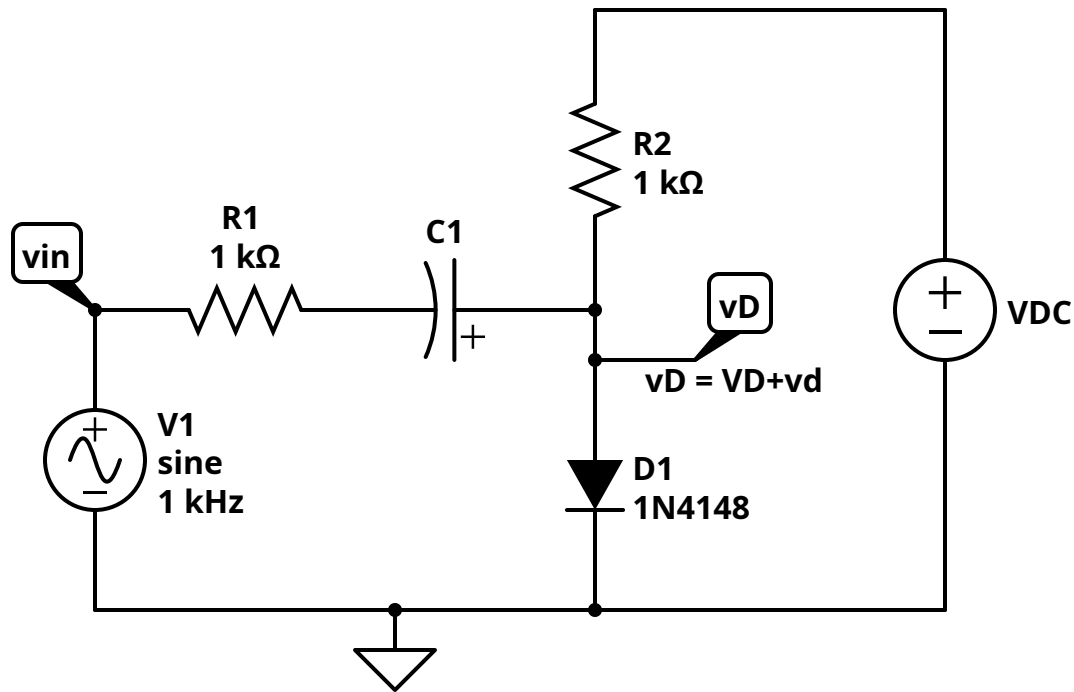
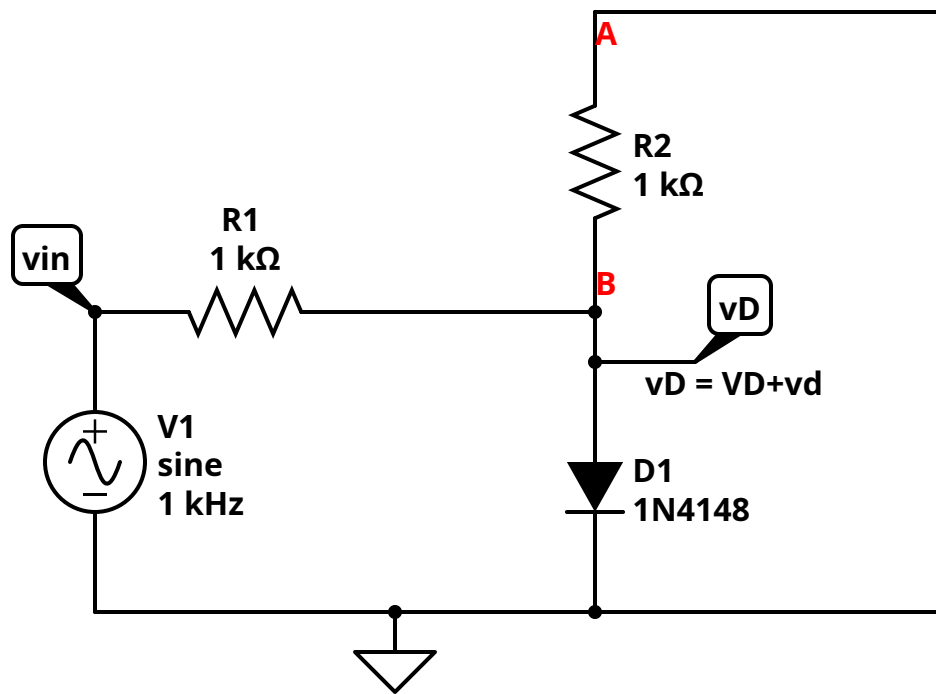
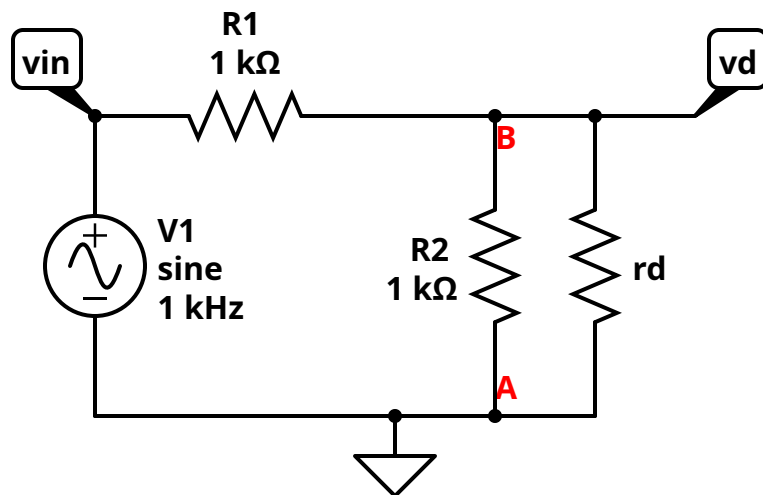

Figure 5. Current-controlled resistance circuit to construct
Figure 9. Small-signal circuit step 2
Figure 10. Small-signal circuit step 3
Briefly switch back to look at Figure 5 and notice the two 1 k Ω resistors attached to the capacitor's nodes, see $\approx 500 \Omega$ in your mind, as if they are in parallel.
Remember that this capacitor is in *series* with R1 from Figure 5. You can see that adding 5 Ω to 1 k Ω still gives a series impedance of about 1 k Ω . What other circuit element do you know where you can put it in series with something else and have no effect? \rightarrow a *short-circuit* !
These two approximations are useful in understanding what is happening in the Figure 5 circuit's operation.
□ Measure the time it takes for a diode to become reverse-biased after carrying forward current. See Fig.5 and Fig.9 of Vishay Application Note: Rectifiers Physical Explanation for notated plots of the various reverse recovery definitions. This is *not exactly* the same as t_{rr} the reverse-recovery time.
Obtain the *small-signal equivalent circuit* from the as-built Figure 5 by first considering capacitor C_1 . At the input frequency of 1 kHz, the impedance of the capacitor is, if $C = 220 \mu\text{F}$:
Next up, replace the 0 V source with a short-circuit and label the two terminals of $R2$ so we can keep track of what happens with it, giving Figure 9.
Resistor R2 in the circuit can be rotated in the circuit without changing how it is connected. Notice between Figure 9 and Figure 10 that it is still connected between node vd and the reference node.
The final *small-signal equivalent circuit* in Figure 10 is used to estimate the gain of the circuit for small-amplitude input signals. This circuit describes how the circuit in Figure 5 *behaves* for the **AC** portion of the voltages and currents. Every device in the full original circuit must be accounted for in the *small-signal equivalent* circuit!
Notice that r_d , the diode's small-signal equivalent resistance, is a function of the **DC (average) current** through the diode. This means that changing this diode DC current will change the numbers in Figure 10.
Analyze the circuit of Figure 10 to find the gain of the circuit from the input v_{in} to the output taken as v_d . This will be a function of the DC current through the diode, I_D . Assume room temperature with $V_T = 26 \text{ mV}$ and an ideality factor of $n=2$.